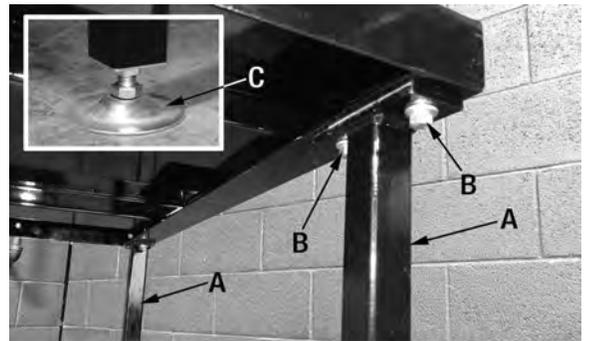

FIGURE 9
3. Fasten the 2 support legs (A) Fig.9 to the extension table using 4 hex. bolts, spring washers and washers (B). Once installed, the adjustment feet (C) must be adjusted properly to offer adequate support. Turn the adjustment feet until they both bottom out against the floor and tighten the upper hex. nut against each support leg to secure them in place.